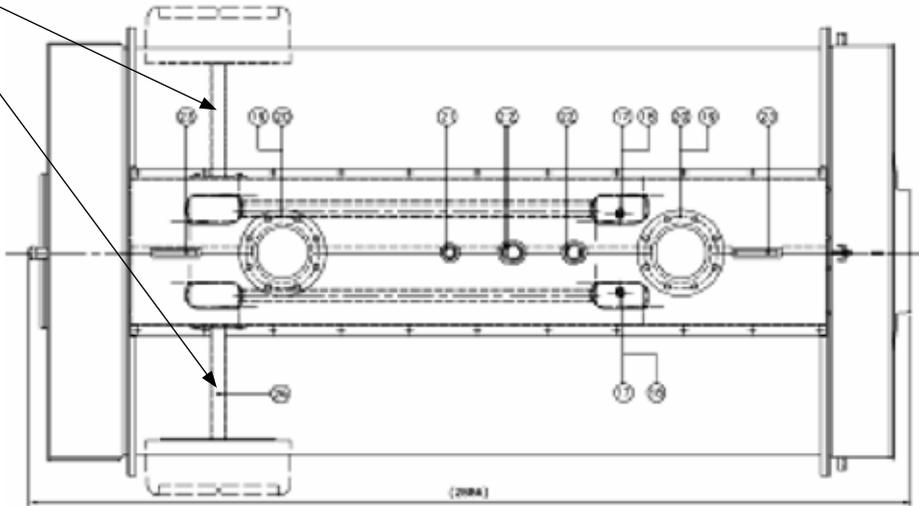

fig. 33
- 4) perform the electrical connections of the control panel and fix it onto the boiler casing, using the screws provided (fig. 33 and 34).